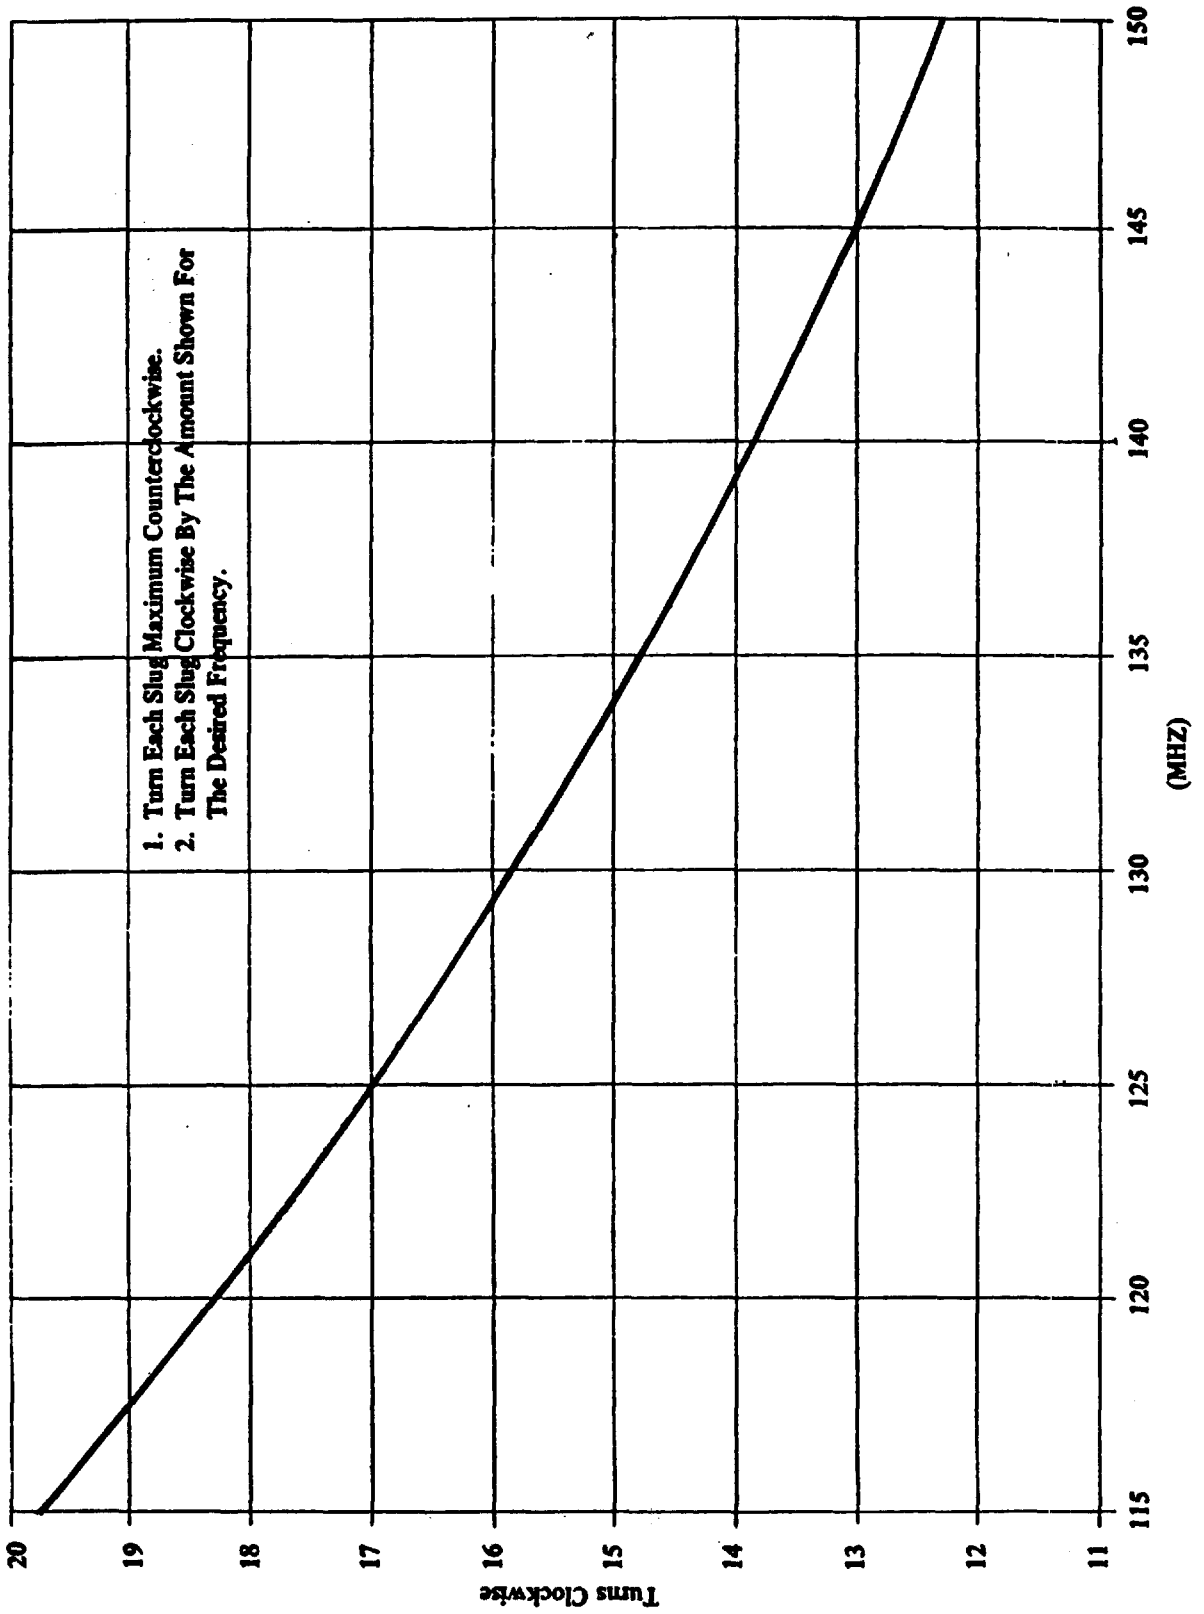

Figure 3-3. VHF Tunable Filter Turns Versus Frequency
b. Refer to figure 3-3 for setting of tunable filter IN and OUT controls and carefully adjust each as indicated.
For initial adjustment of the tunable filter IN and OUT controls, refer to figure 3-3. Carefully adjust each as indicated.
a. Using a screwdriver, position the dots on the oscillator-multiplier module to line up with the frequency markings equivalent to 5X the crystal frequency. Position the dots on the mixer multiplier module to line up with the operating frequency markings. Refer to Figure 3-2 (UHF) or Figure 3-3 (VHF) for setting the tunable filter IN and OUT controls and carefully adjust each as indicated.